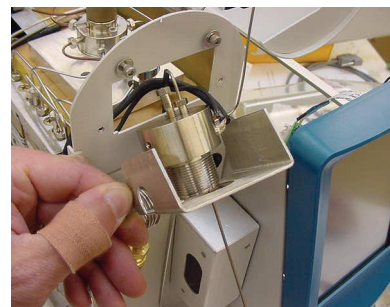

Figure 8.3. Removing the sparge mount bracket
13. Tilt the sparge mount bracket up and remove the sparge mount bracket (Figure 8.3).